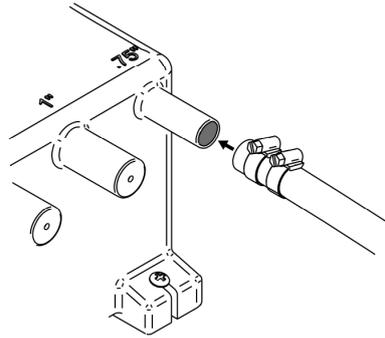

Figure 7 Securing Hose to Tank Port
**Step 3:** Secure all hosing onto the selected ports using appropriate hose clamps, as shown in Figure 7. Check no leaks occur. Do not overtighten hose clamps.